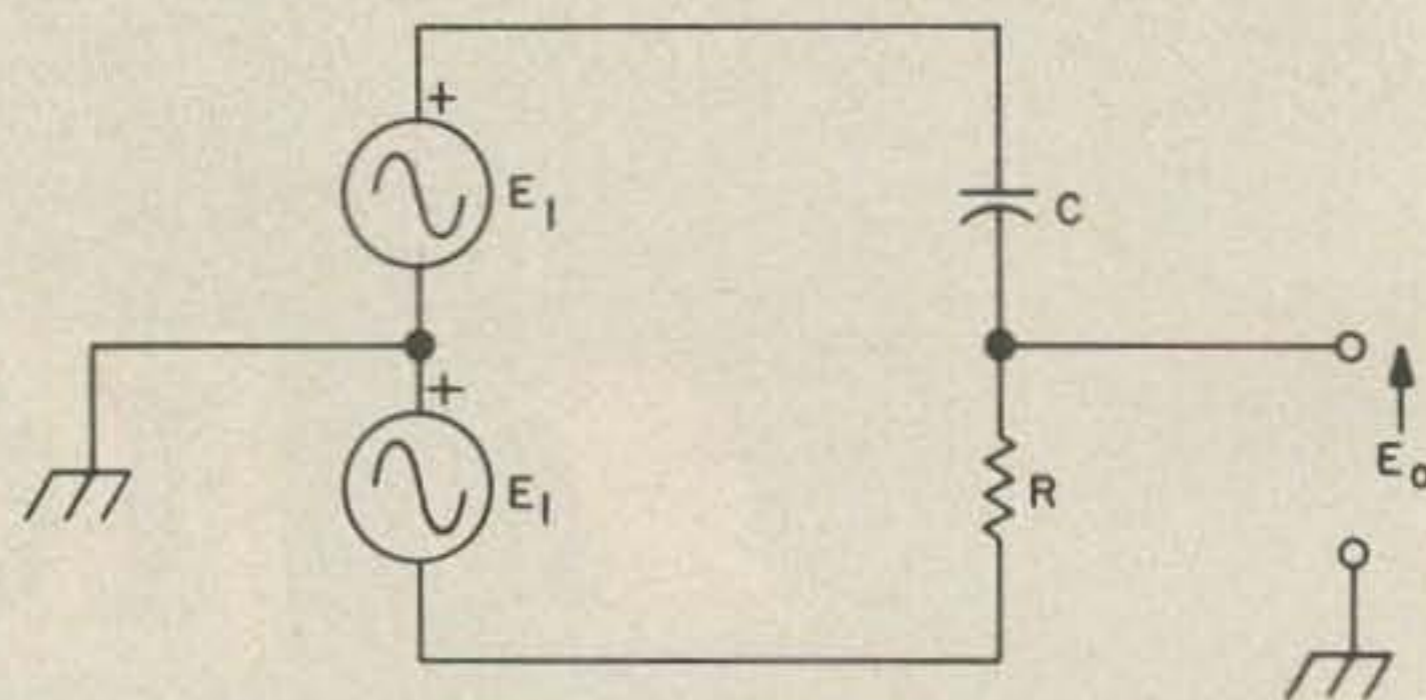
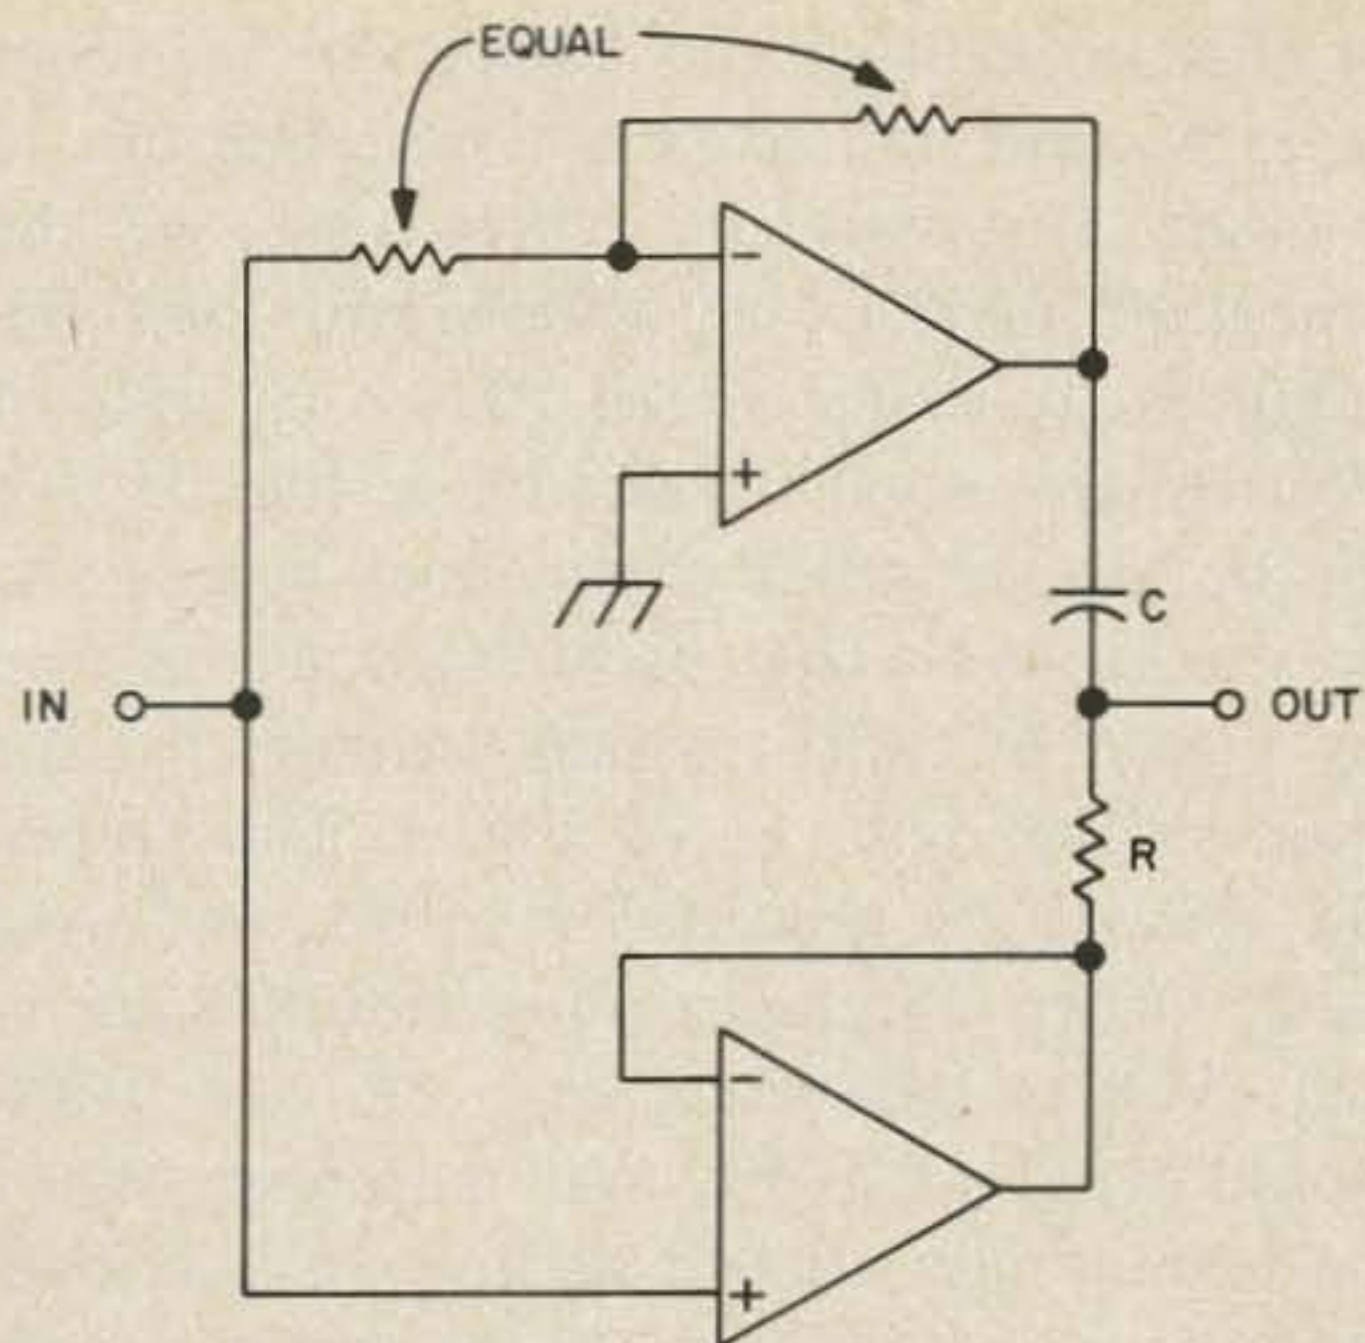
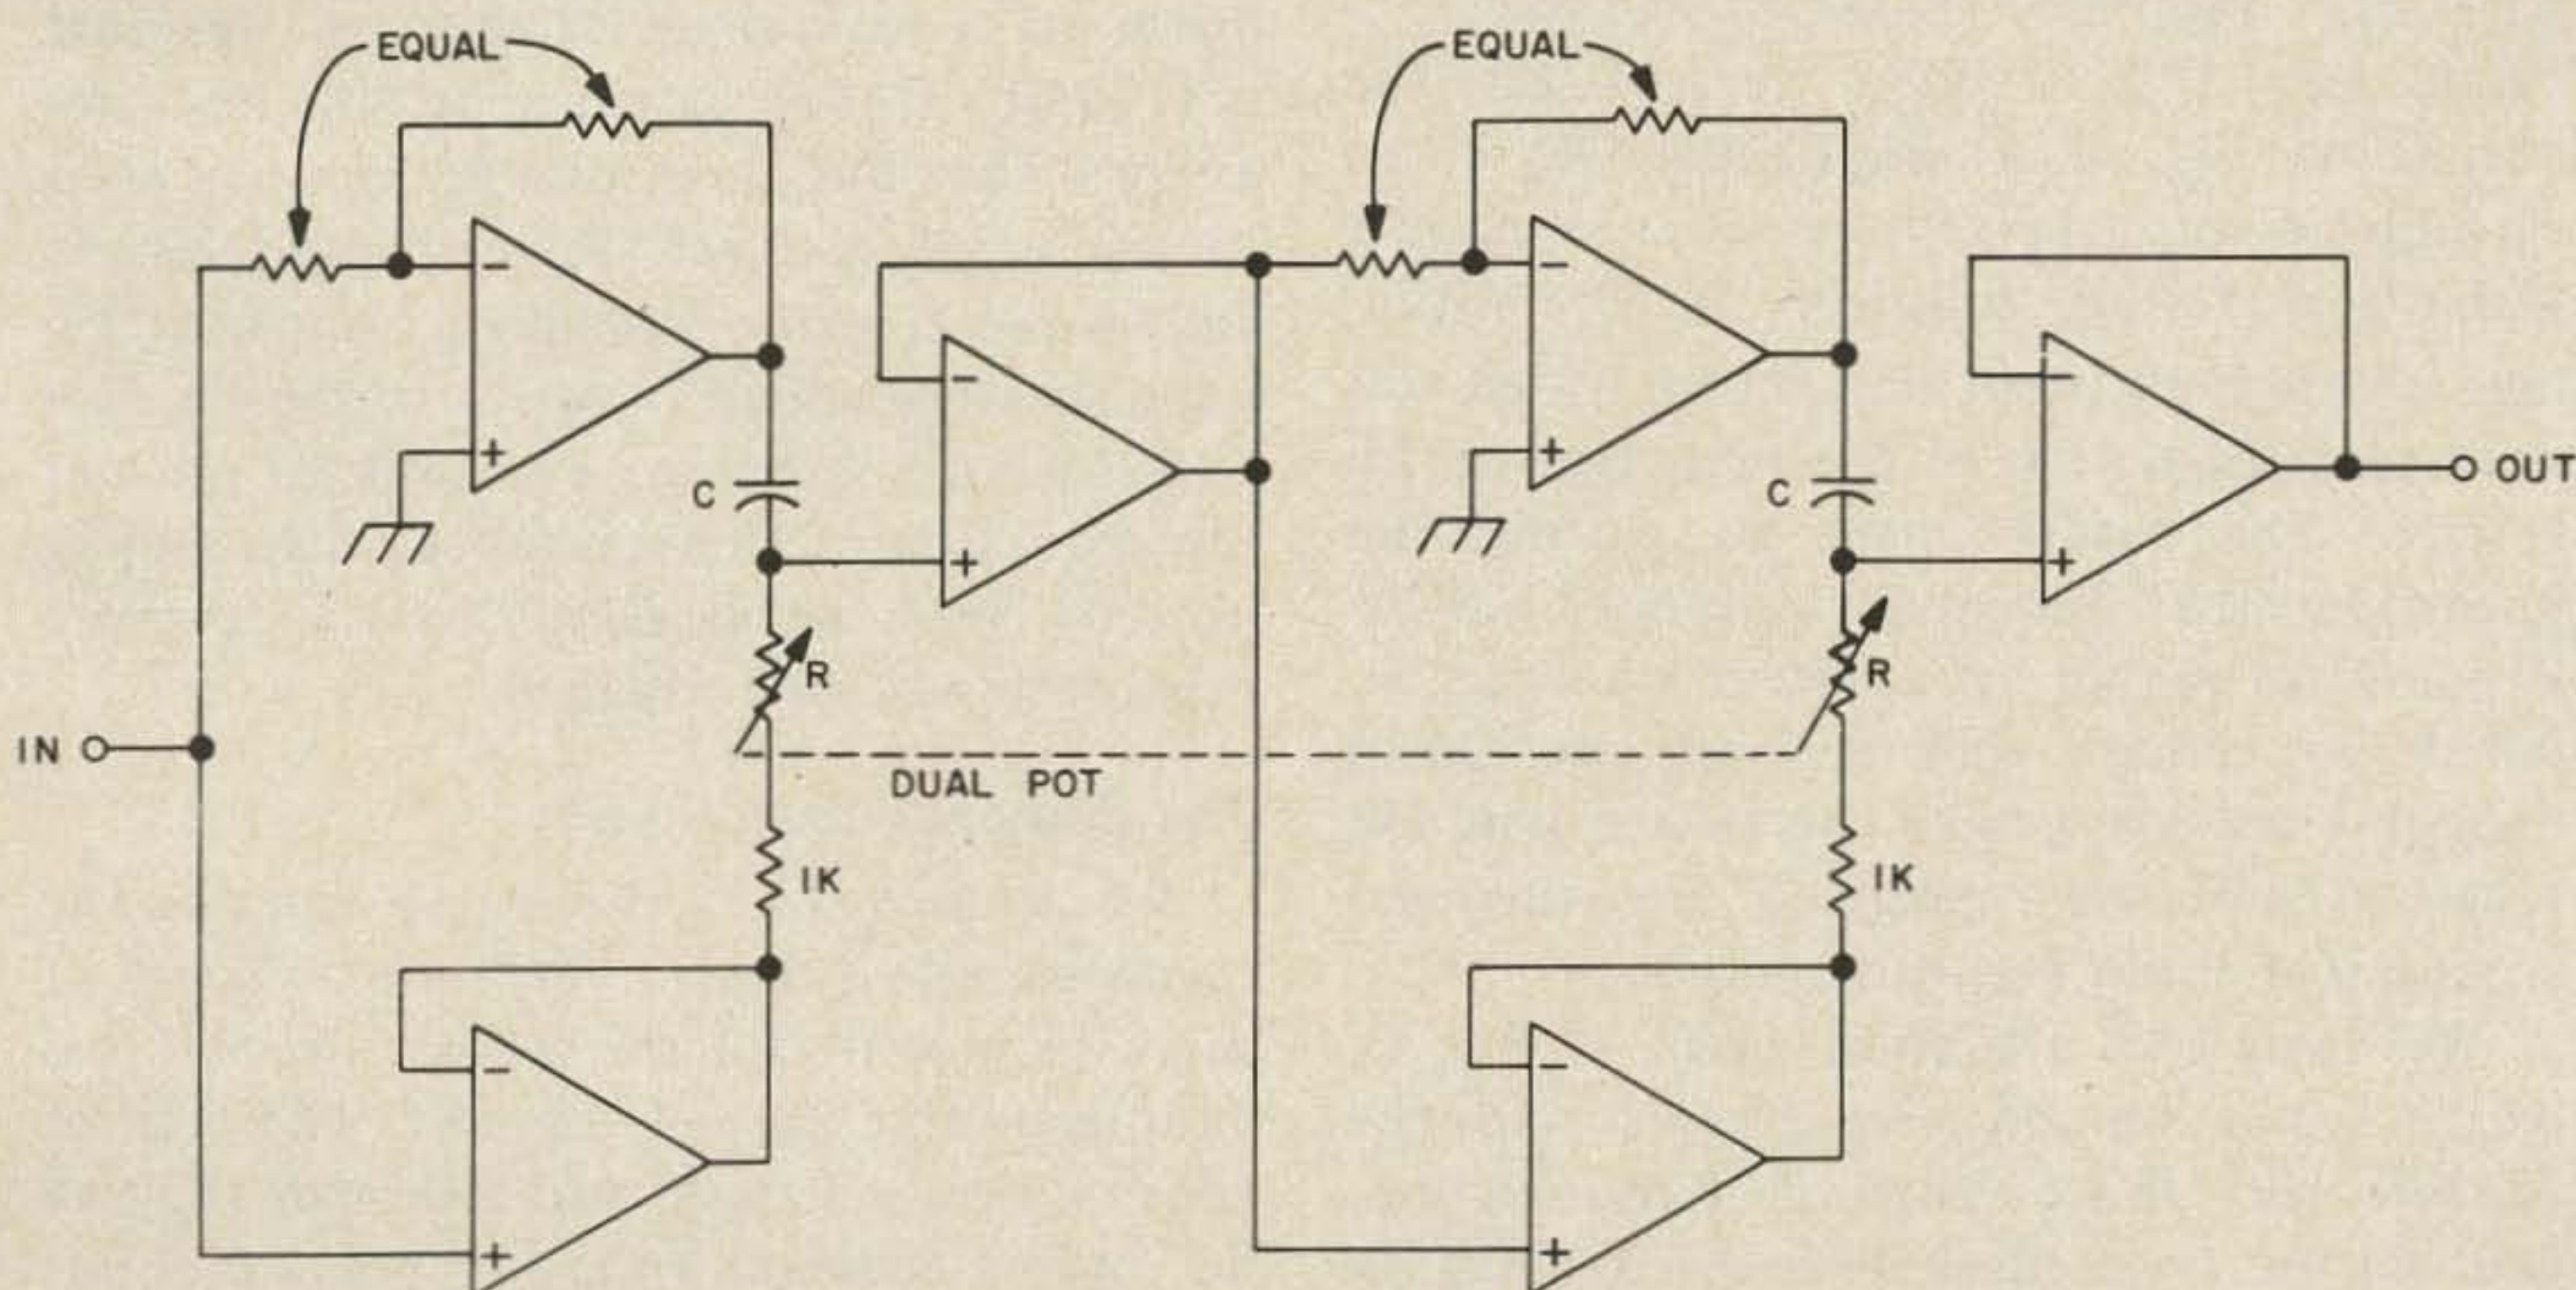

Fig. 1. The basic phase shifter with constant amplitude characteristics.
Fig. 2. Showing the implementation of Fig. 1, using operational amplifiers.
Fig. 3. The phase shifter portion of the modern select-o-ject. Parts values are discussed in the text.
To understand the source of the difficulty with older versions of the select-o-ject, and to fully understand the operation of the modernized version presented here, we turn our attention to Fig. 1, which shows the basic shifter. It is necessary to have the two sources shown, so that the output is constant in amplitude. The little + signs indicate the relative phasing of the two sources, which are presumed to have zero source impedance. The output is unloaded. Under these conditions, the output/input characteristic of the circuit is given by:
This is easily derived by those handy with phasor algebra. From equation (1) we can easily list the important traits of the circuit of Fig. 1.:
In older versions of this device, the sources of Fig. 1, were obtained by splitting the incoming signal equally between the plate and cathode, or collector and emitter, as the case may have been. Unfortunately, the requisite load resistors at either end of the active device used, resulted in a non-zero source impedance, and finite output loading. This is the reason for the oddly large values of the resistors which are shown in transistor circuits.
With the advent of low-cost operational amplifiers with pretty close to ideal input-output impedance characteristics, the circuit of Fig. 1, can be approached a good deal more closely, in the real world. Fig. 2, illustrates how this is done. In Fig. 2, and in the rest of this article, all op-amps are drawn in what has become the "standard" orientation, with the inverting input at the top, as indicated by the - sign (the non-inverting input being indicated by a + sign). Power supply connections and dc balancing details are omitted for clarity. Comments on these
Now Fig. 2, will provide a 90° phase shift at the "center frequency" where, from the second of the four traits listed above we can write:
The ω_0 subscript indicates that this is the particular frequency to which the device is tuned. But 180° is what we seek. So, the circuit of Fig. 2, is duplicated. An extra op-amp is interspersed, used as a simple gain-of-one voltage follower, to take advantage of the high input impedance which will not upset the action of the first stage of the shifter. The reader may be getting the impression that our modernized select-o-ject is going to gobble up scads of op-amps, to which we remark that op-amps are cheap enough these days, and the device will use very little else. As a matter of fact, the total component count is surprizingly low.
We turn our attention then to Fig. 3, which shows the complete schematic for the tunable 180° shifter portion of the select-o-ject. Before proceeding with the application of Fig. 3, to a modern select-o-ject, this would be a good time to discuss part values
for this portion of the device. Some things are important and some are not. The use of op-amps automatically takes care of the important matter of source and load impedances. It is important that each pair of resistors are equal, as shown in Fig. 3. It is not important what their exact values are. The reason is so that each "source" op-amp has a gain of unity, which provides for the equal voltage sources of Fig. 1. The author had some 2.2K precision resistors, and used them. Other matched values should work as well. Values between, say, 1K and 100K should work all right, and matching with a good ohmmeter should suffice. In like manner, the exact values of the tuning components, consisting of the two capacitors, and the dual pot, are not important. It is important that the two capacitors be reasonably close in value. The author happened to have a dual 25K pot, and some quick arithmetic with equation (2) showed that values for the two capacitors of $0.1 \mu\text{F}$ would give a range of tuning of about from 80Hz to 5000Hz. In practice, it turns out that the tuning range is inconveniently compressed at the high end with linear tuning pots. An "audio taper" dual pot would probably present procurement problems and the author did not bother to obtain one. Instead, empirical experience with the device led to a reduction in the values of the Cs to $0.047 \mu\text{F}$, which brought the tuning range down to a reasonable "swing" of the dual pot shaft, at the expense of the low frequency end. But then, one seldom has need to use a select-o-ject down around 200Hz and lower anyway. Finally, a couple of 1K resistors were added in series with each dual pot section, as shown. This was to prevent the reduction of the resistance of the tuning pots to zero, which event leads to a severe degradation of performance.